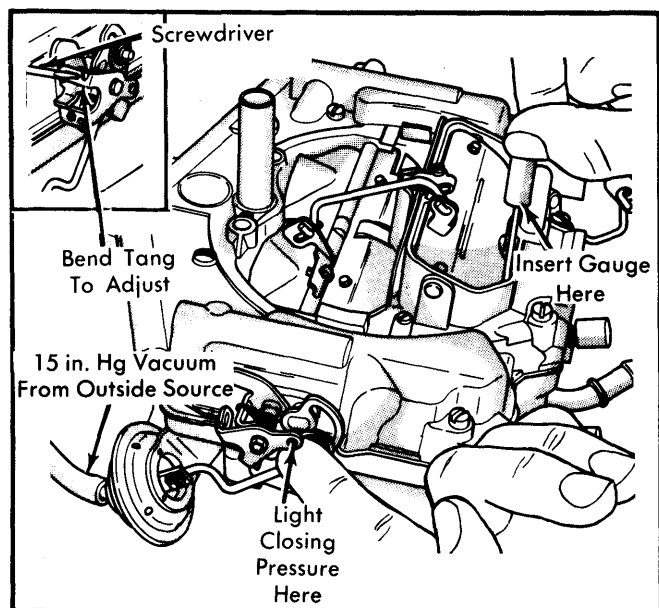

Fig. 9 Adjusting Choke Vacuum Kick
- 1) Open throttle and close choke. Now close throttle to trap fast idle cam at closed choke position. See Fig. 9.